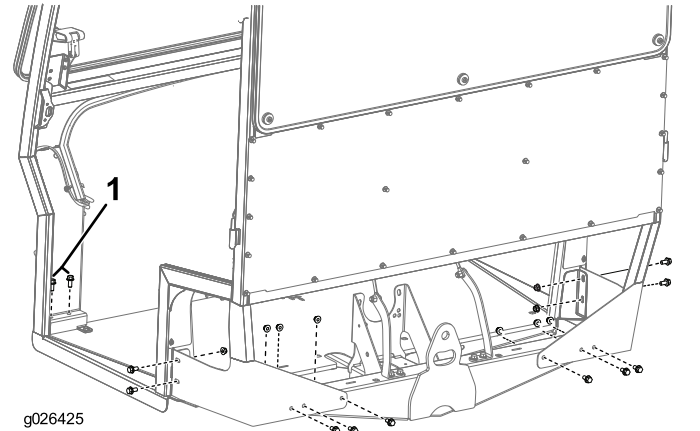

Figure 6
- Secure the frame to the machine using 10 bolts (3/8 x 3/4 inch), 10 nuts (3/8 inch), and 4 bolts (3/8 x 7/8 inch) as shown in Figure 6.